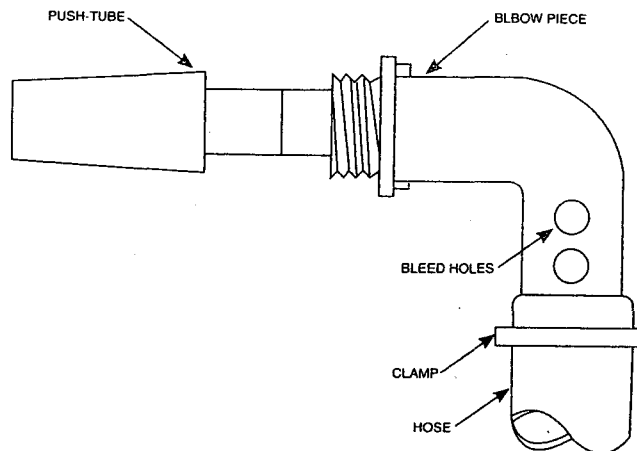

FIGURE 6
3. Refer to Figure 1. Uncoil the hose (3) and remove all twist. Using clamps (15), clamp one end of the hose to the back side of the fountainhead (1) and the other end to the inlet adapter from step 2. Cover one set of bleed holes with the hose (Fig. 6). To tighten clamp, grasp "tabs" between thumb and forefinger and squeeze. Tighten securely with a pair of pliers. To open the clamp, grip one "tab" of the clamp with pliers and twist loose.
4. Using the tie wrap (14), LOOSELY attach the anchor (4) to the hose (3). The anchor (4) should be attached to the hose (3) at a point as deep as the water plus approximately two feet. You will have to estimate what the water depth is where you want the fountain and add two feet. **CAUTION: DO NOT CONSTRICT THE HOSE BY TIGHTENING THE TIE WRAP (14) TOO TIGHT.**
6. Place the fountain assembly into the pool. Position the fountain in the desired location being careful not to crimp the hose (3).
2. Refer to Figure 6.Push the small end of the Push-in Tube (12) into the threaded end of the Elbow Piece (6) until it is secure. this is your inlet adater.
3. Refer to Figure 1.Uncoil the hose (3) and remove all twist.Using clamps(15),clamp one end of the hose to the back side of the fountainhead (1) and the other end to the inlet adapter from step 2.Cover one set of bleed holes with the hose (Fig.6). To tighten clamp,grasp "tabs" between thumb and forefinger and squeeze.Tighten securely with a pair of pliers.To open the clamp,grip one "tab" of the clamp with pliers and twist loose.
4. Using the tie wrap(14),LOOSELY attach the anchor (4) to the hose (3),the anchor (4) should be attached to the hose(3) at a point as deep as the water plus approximately two feet.You will have to estimate what the water depth is where you want the fountain and add two feet.**CAUTION:DO NOT CONSTRICT THE HOSE BY TIGHTENING THE TIE WRAP (14) TOO TIGHT.**
6. Place the fountain assembly into the pool.Position the fountain in the desired location being careful not to crimp the hose (3).
Height adjustment is achieved by covering more or less of the bleed holes(Fig.6) on your elbow piece (6) with the hose (3). The more holes covered,the hihger the fountain and vice versa.